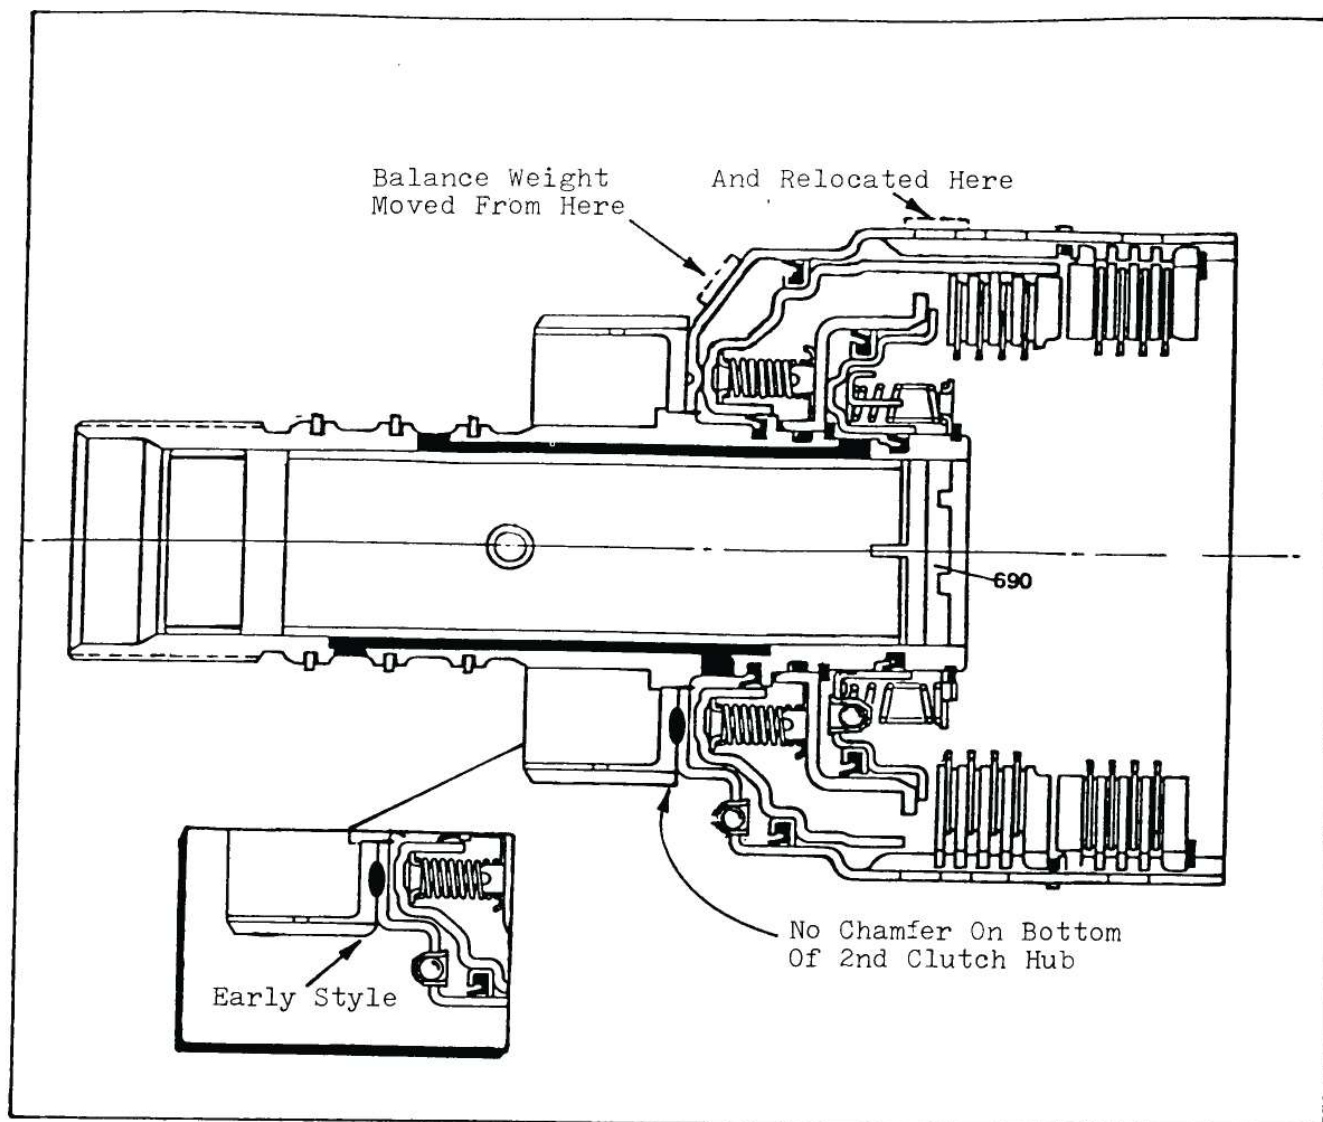

Figure 34
- 6) Input Housing - Revised balance weight location so as to eliminate interference with revised backing plate assembly (See Figure 34). Also no chamfer on bottom of 2nd clutch hub (See Figure 34).
The 6 plate 2nd clutch will retro all the way back as long as you have an input housing with no balance weight, or an input housing with the balance weight down on the side (See Figure 34).